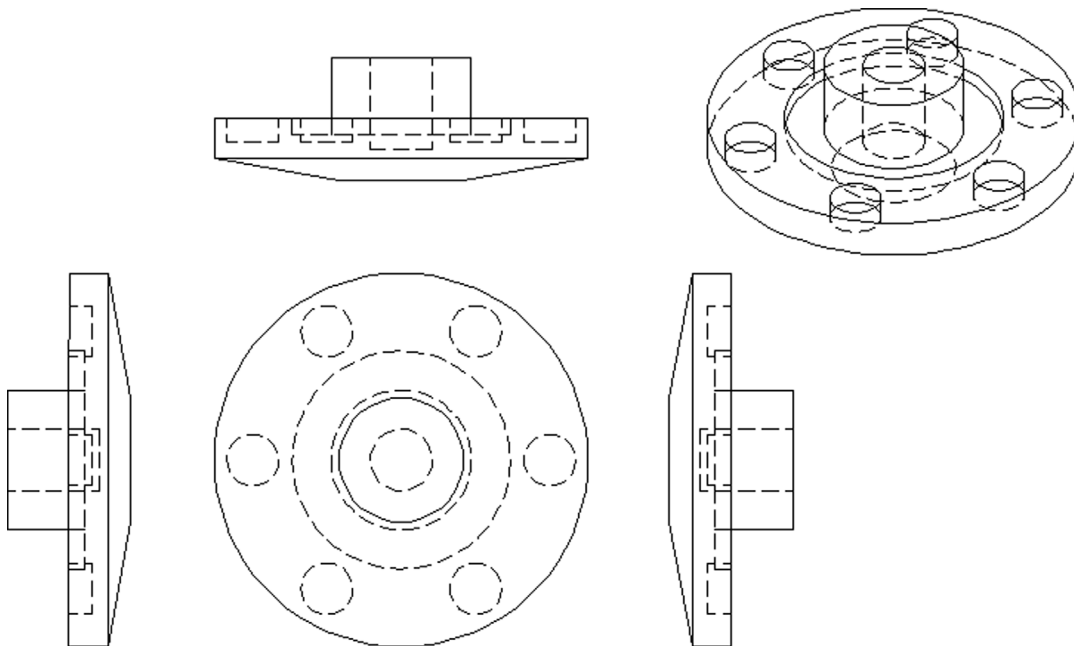

FIGURE 27.13 Additional projections.
Step 2. The new views are attached to the movements of your mouse. Note how it can be located only in certain planes; left right, top, and bottom. Click to place the projections one time to the left and one time to the right of the main view, pressing Enter when done. The result is shown in Fig. 27.13.